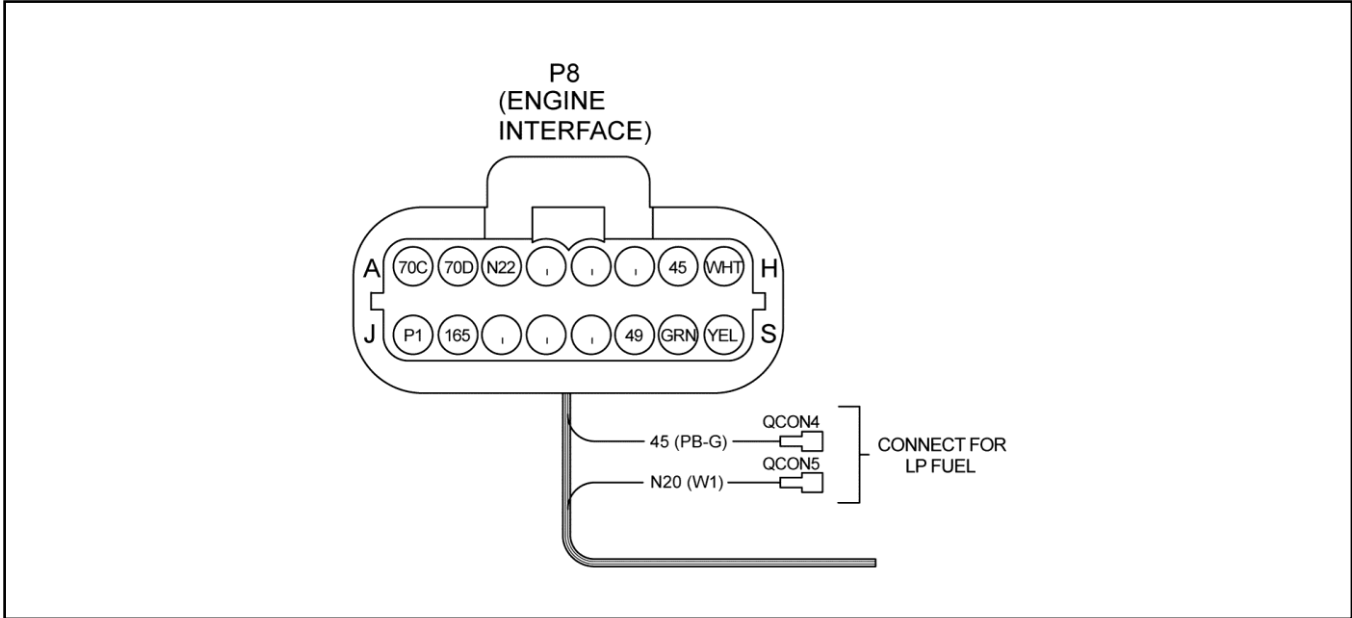

Figure 16 Wiring Harness
2. **For LPG fuel only**, connect wire N20 from the fuel pressure regulator to wire 45 from the ECM wiring harness using the quick-connect adapters. See Figure 16.
3. Disconnect wire N20 and wire 45. See Figure 16.